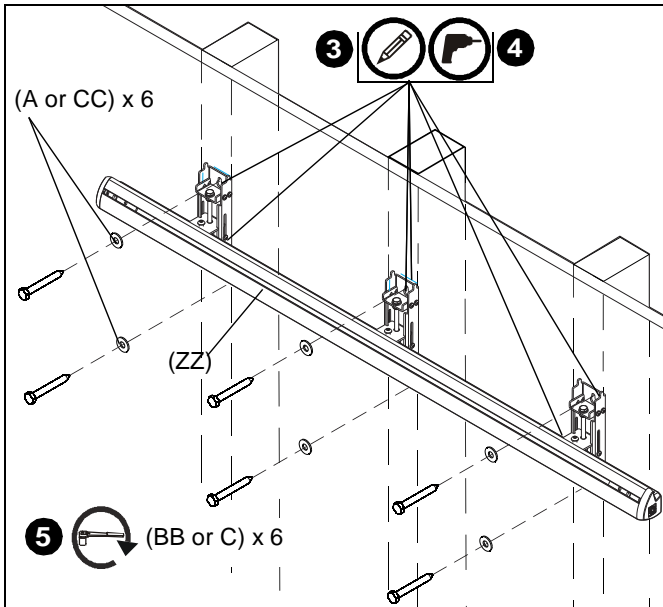

Figure 3
3. Using a level, mark the wall on each stud above existing chalkboard/whiteboard through mounting holes in each bracket on the wall assembly (ZZ). (See Figure 3)
4. Drill one 1/8" pilot hole at each mark. (See Figure 3)
5. Use six 1/4-20 x 2-1/2" lag bolts (BB or C) and six 1/4" flat washers (A or CC) to attach wall assembly (ZZ) to wall. (See Figure 3)